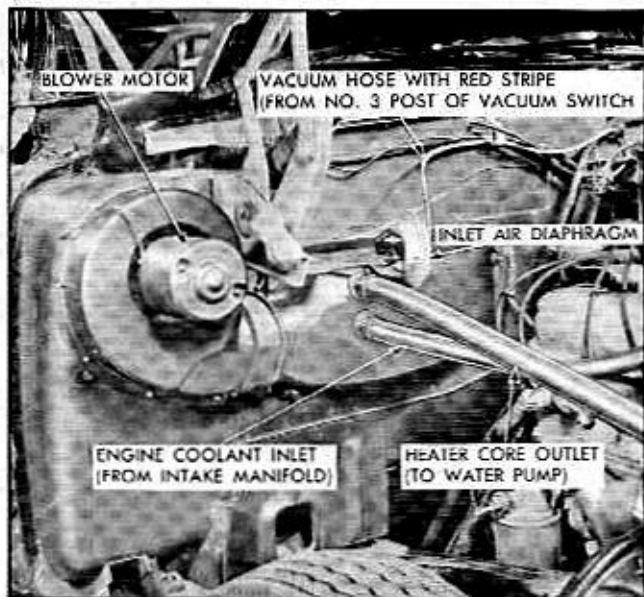

Fig. 1-23 Circ-L-Aire Heater Air Inlet Duct Assembly on Dash Shroud
5. Disconnect wires at blower motor (Fig. 1-23).